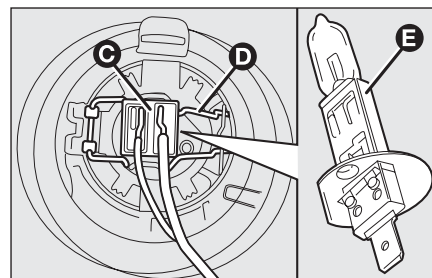

fig. 26
- ☐ disconnect the electric connector **C-fig. 26**;